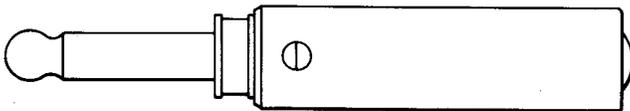

Fig. 26—373C or D Plug
2.16 373C and D: The 373C and D (Fig. 26) are short-circuiting plugs which are not designed for cord connections. The 373C and D plugs are used with the 99- and similar-type jacks.